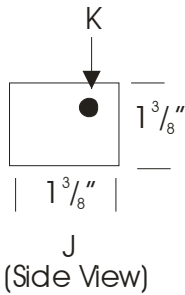

Figure 4
4. The hole drilled at “K” in Figure 4 with a 1/8” drill bit is optional. A bolt or nail inserted through the hole acts as a stop for the meter stick and helps to hold it in position.